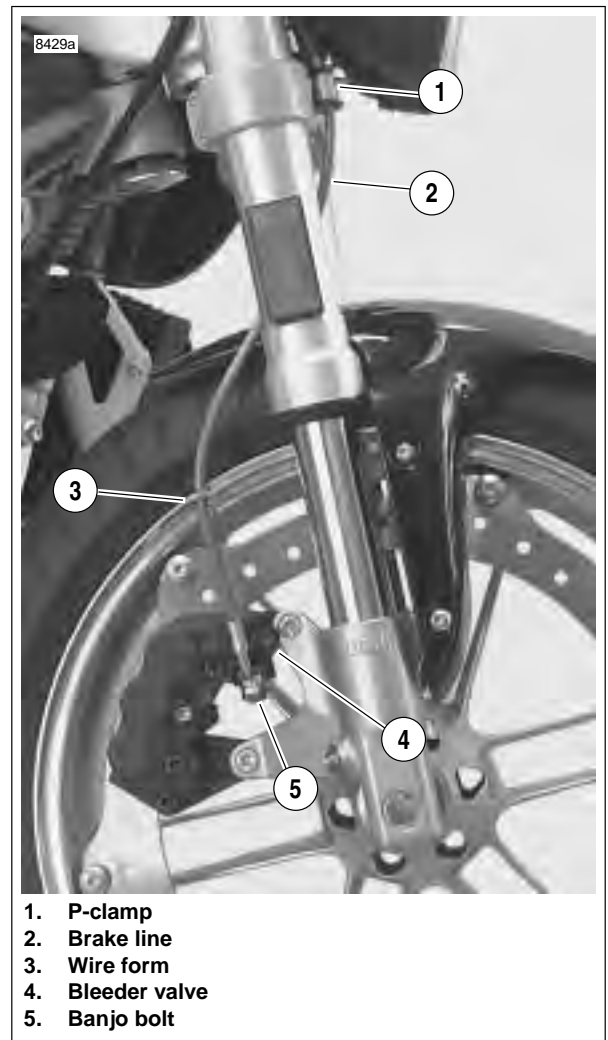

Figure 2-42. Front Brake Line
3. See Figure 2-42. Remove p-clamp (1) detaching brake line from right side of lower fork clamp.
5. See Figure 2-42. Remove caliper banjo bolt (5) (metric), two copper washers and wire form (3) to disconnect brake line (2) from caliper. Discard copper washers.